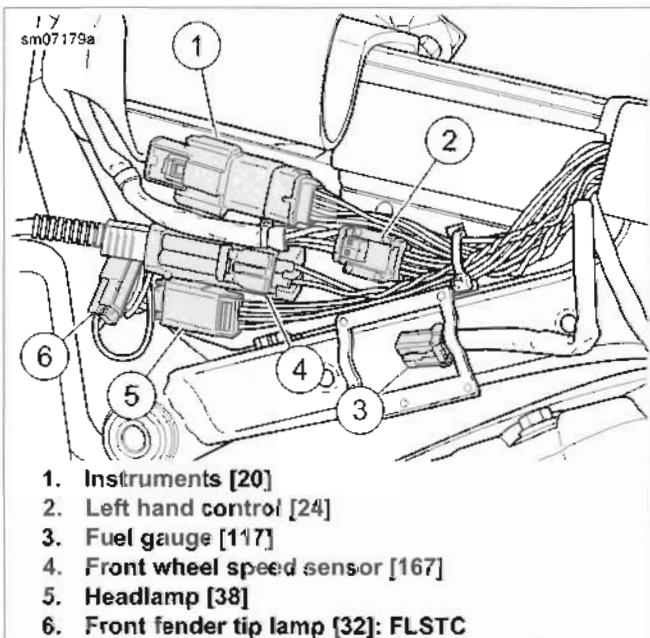

Figure 7-97. Under Fuel Tank Left Side
2. See Figure 7-97. Slide fuel tank rearward and disconnect instruments harness connector [20] (1).
3. See Figure 7-97. Connect instruments harness connector [20] (1).